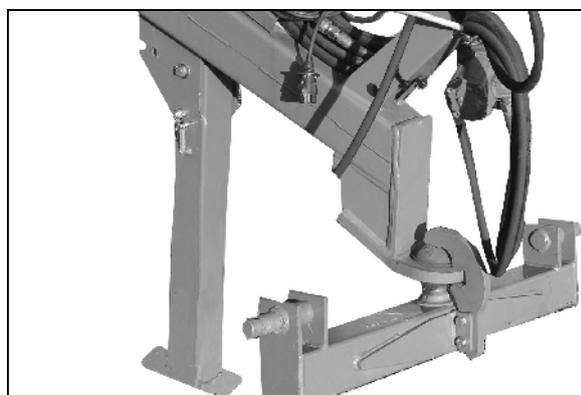

Fig. 74
- Stand lowered when machine is uncoupled (Fig. 74).